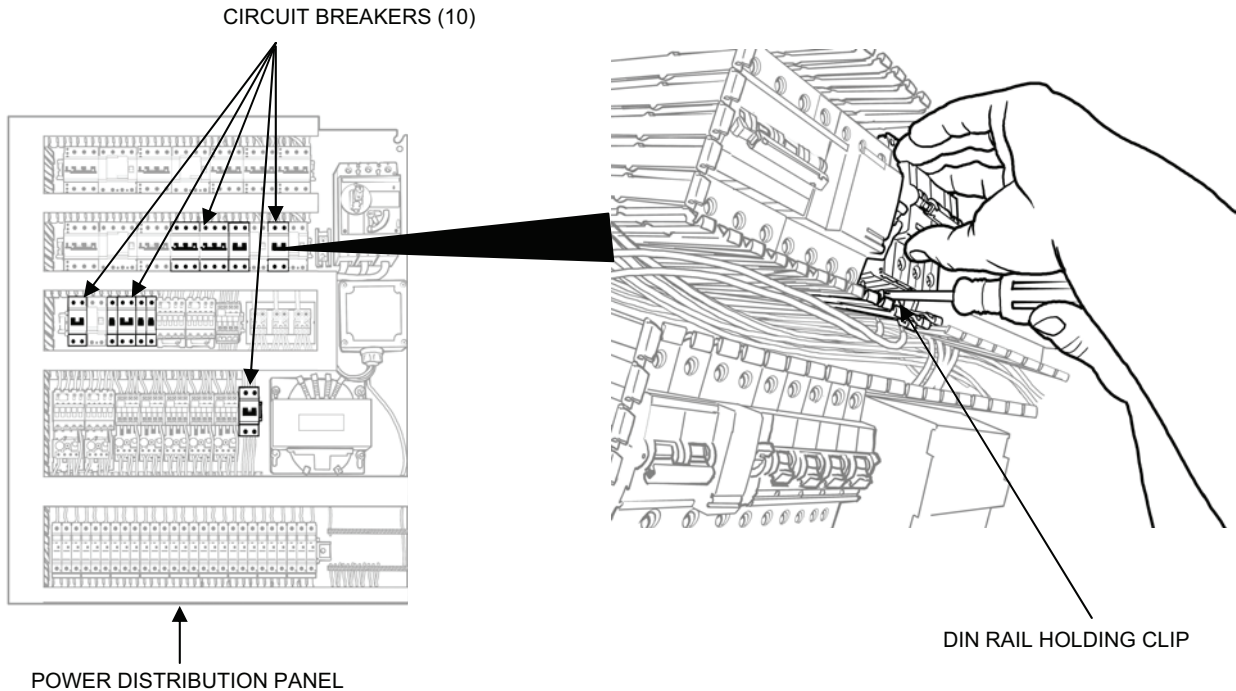

Figure 2. Circuit Breaker Replacement.
1. Remove a circuit breaker as follows (see Figure 2):